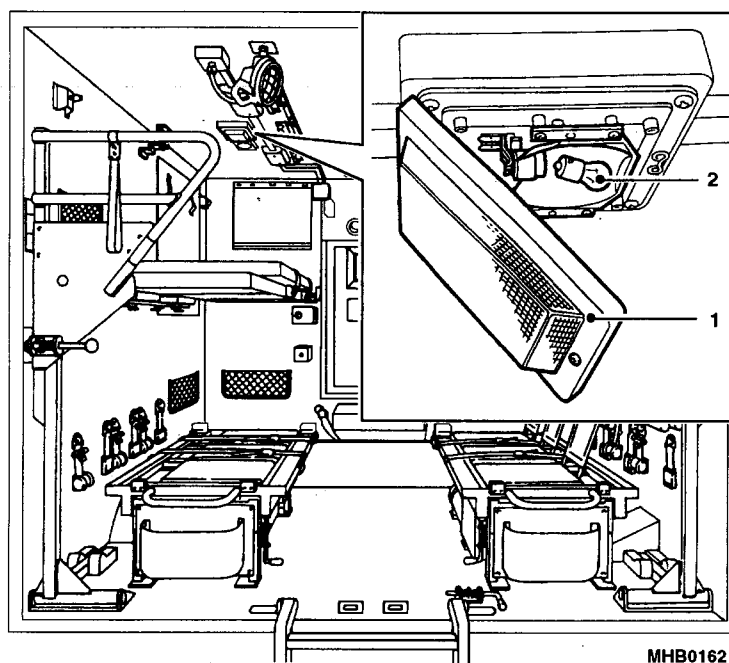

Fig 3 Moonlight
- 6.2 Remove the screw securing the cover (Fig 3 (1)) to the body of the light unit. Hinge down the cover.